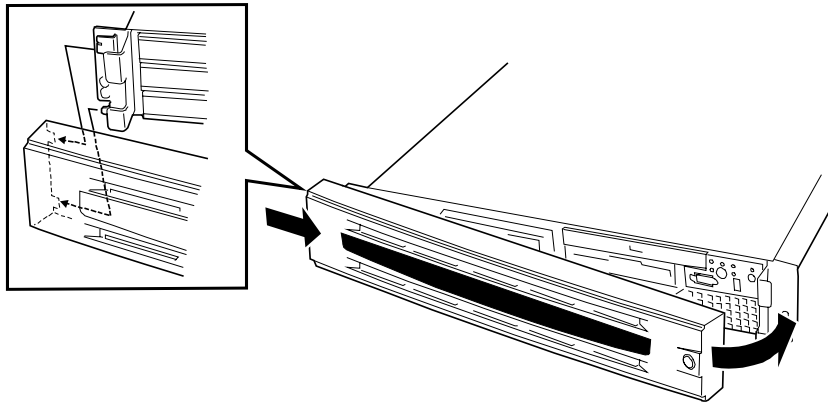

Figure 2-41. Installing the Front Bezel
4. To install the front bezel, latch the tab at the left side of the front bezel on the server frame. After the installation, lock the front bezel by using the key for security. See Figure 2-41.